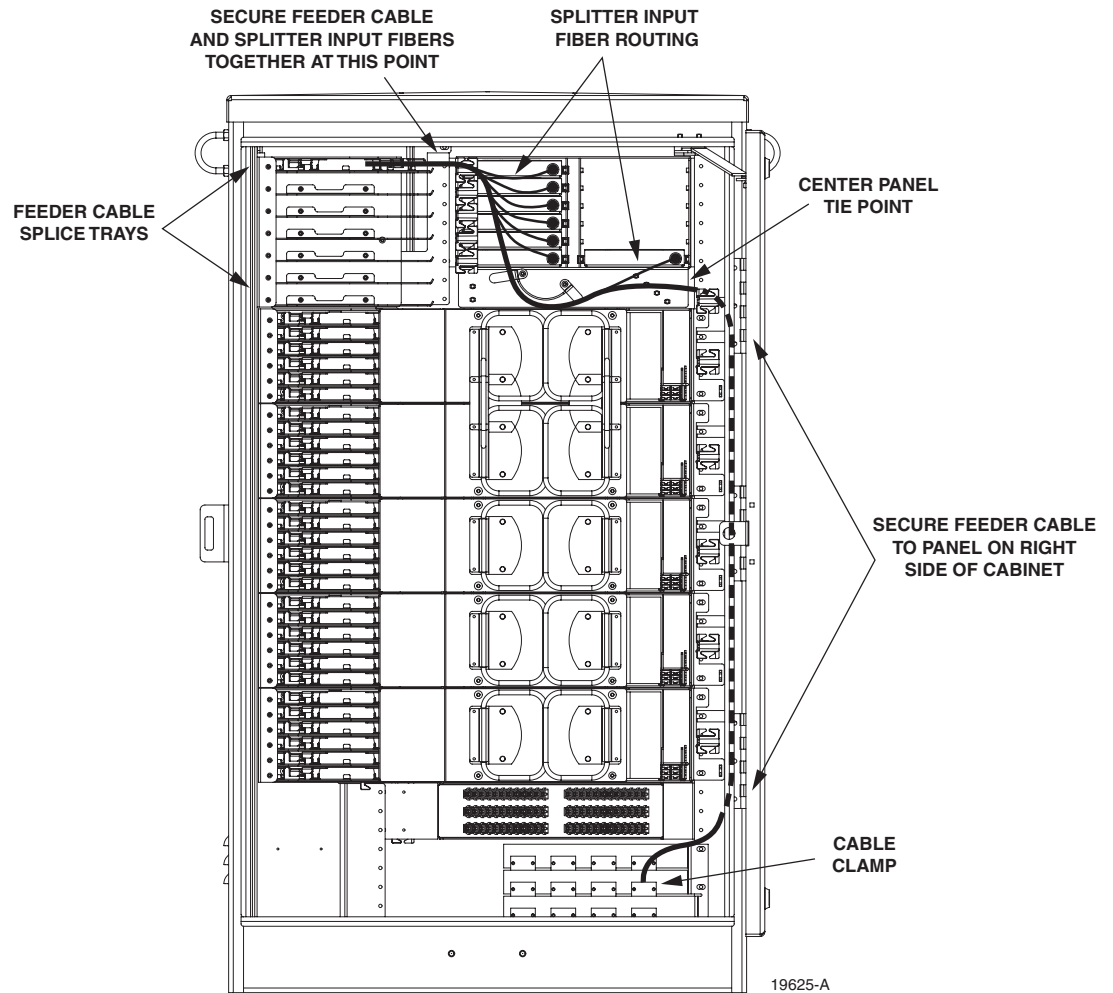

Figure 16. Feeder Cable Fibers Routed To Splice Trays
8. From the cable clamping location, route the first fiber subunit up the right side of the cabinet as shown in Figure 16.
3. Secure the splitter input fibers and the feeder cable fiber subunit together at the point where the two come together before entering the splice tray (see Figure 16). Adjust slack as necessary to prevent binding.